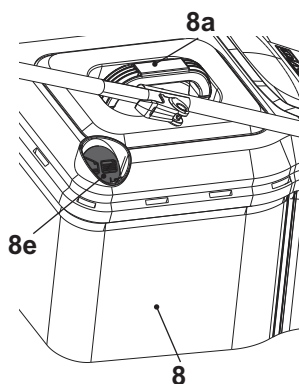

Fig. 14
2. When the hatch (8e) is closed, the grass catcher is full and must be emptied (Fig. 14).